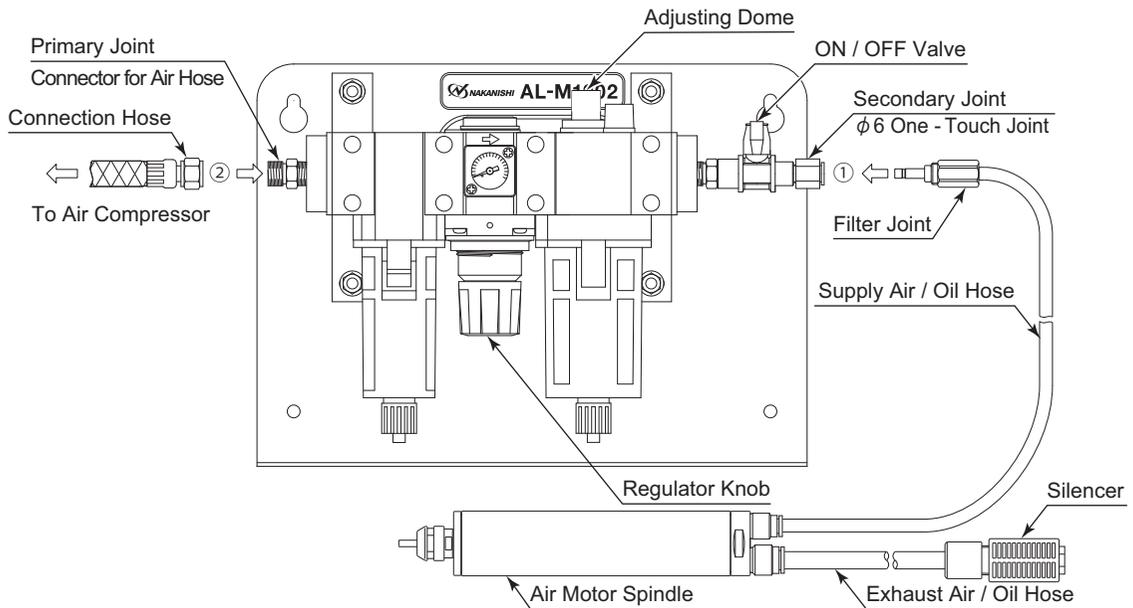

Fig. 16 Connection of Air Line Kit " AL - M1202 (Sold Separately) "
- ① Connect the Filter Joint of the supply air / oil hose to the Secondary Joint (ϕ 6 One - Touch Joint) of the Air Line Kit (Fig. 16 ①).
- ② Fill Oil Reservoir through the Oil Filler Cap with recommended NAKANISHI Lubricating Oil (K - 211 : Air Line Kit's Standard Accessories) to Upper Limit. Disconnect from air supply prior to opening Oil Filler Cap. Do not over or under fill.
- ③ Connect the connection hose (Air Line Kit's Standard Accessories) to the Primary Joint of the Air Line Kit and Compressor (Fig. 16 ②).
- ④ Supply air from the air compressor and turn the Regulator Knob to set air pressure between 0.3 - 0.5 MPa (43.5 - 72.5psi).
- ⑤ Turn the ON / OFF Valve and rotate the Air Motor Spindle with recommended proper air pressure. Adjust the Oil Drip Rate to the recommended volume which is 1 to 3 drops / min. (Commercially Air Line Kit is same Oil Drip Rate).